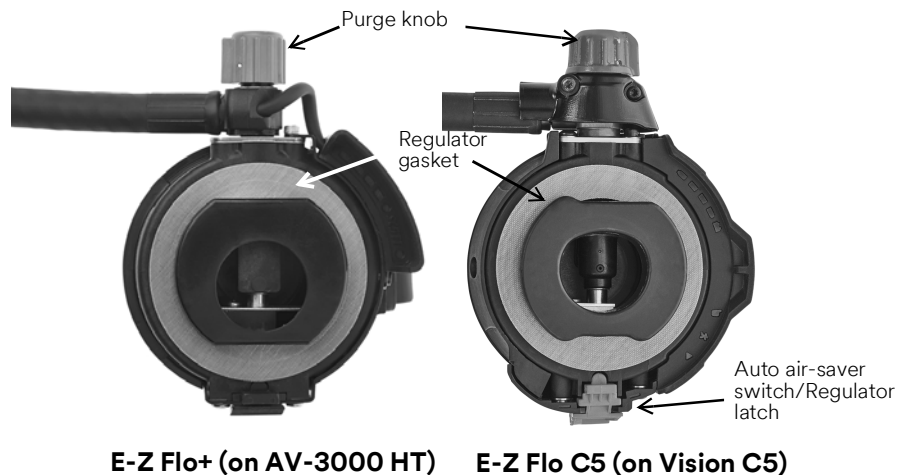

Figure 1-5 Inspecting the regulator
- 1 Verify that the purge valve (red knob) is not damaged and turns smoothly one-half turn from stop to stop. See Figure 1-5.
- 2 Verify that the regulator gasket is not damaged and is in place around the outlet port of the regulator. See Figure 1-5.